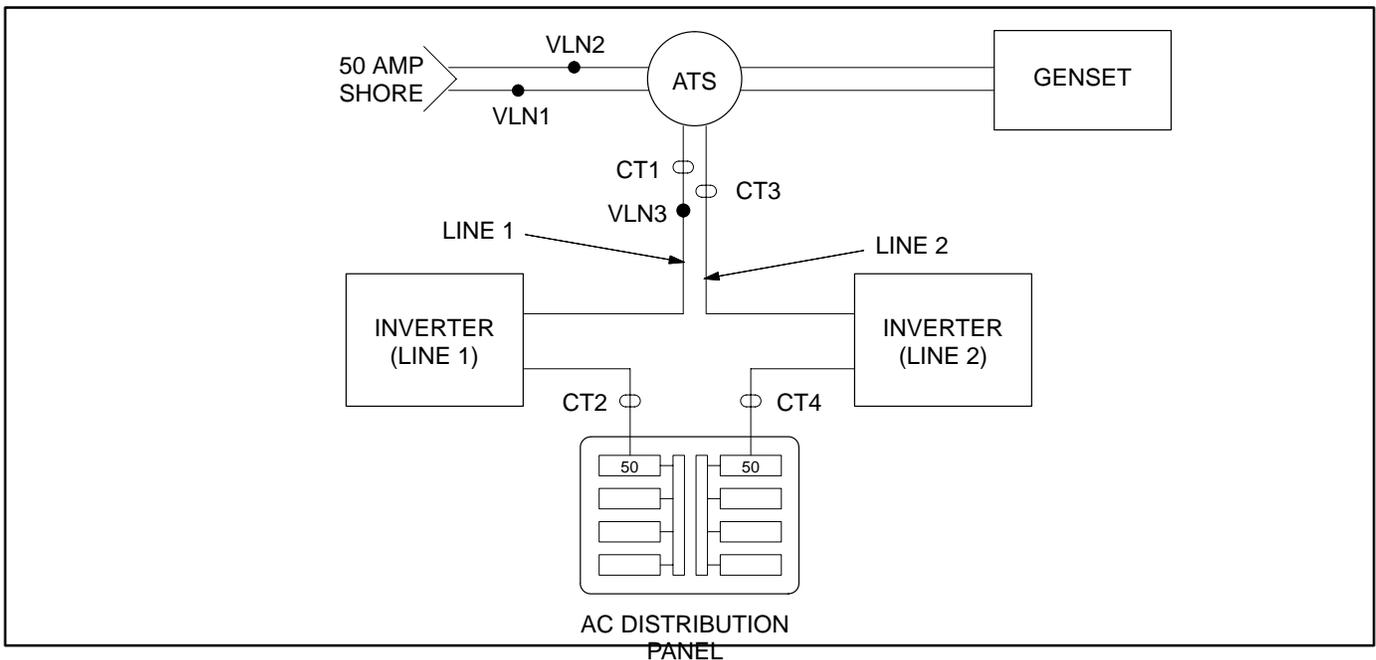

FIGURE 12-7. CONFIGURATION 1
- Configuration 1: Figure 12-7